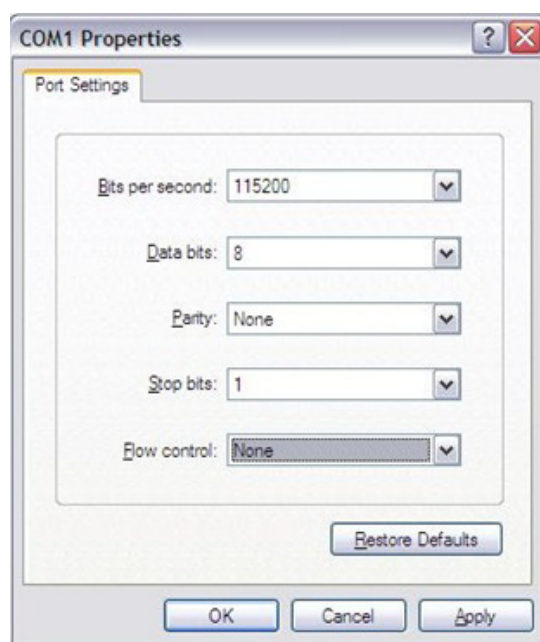

Figure 3.6 HyperTerminal Settings for Terminal Setup
2. Open HyperTerminal on your Windows PC, and select the settings shown in Figure 3-6.